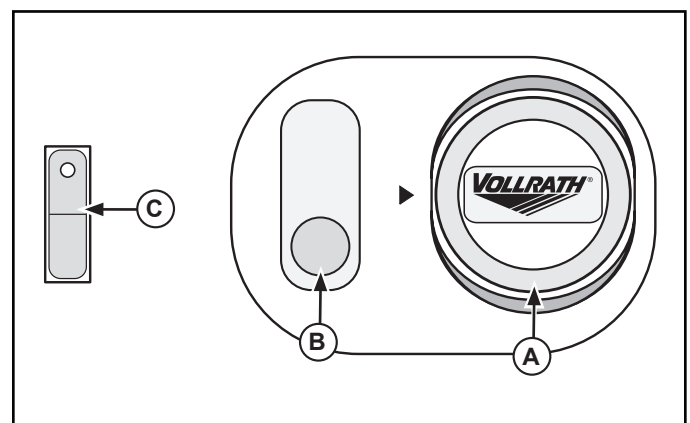

Figure 1. Controls (located on the back of the display cabinet).
1. Adjust the thermostat control (A) to the desired temperature; the pilot light (B) indicates when the elements are energized. See Figure 1.
2. Switch the light switch (C) to the “ON” position if desired.
4. Turn the thermostat control (A) to lowest setting, turn the light switch (C) to the “OFF” position and unplug unit. When removing hot food containers from unit use gloves, mitts or pot holders to protect hands.